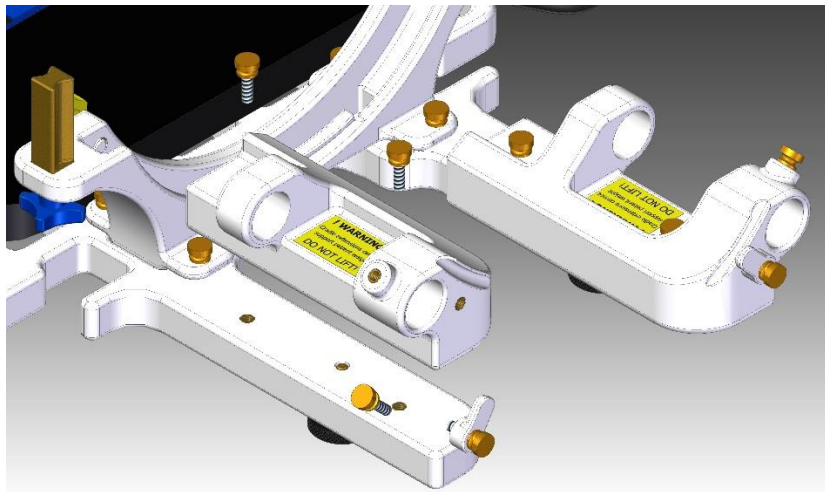

Figure 12. Remove the IP Arm Interfaces
Remove each of the Interface Platform (IP) Arm Interfaces from the Patient Board by removing the two thumbscrews (Figure 12)